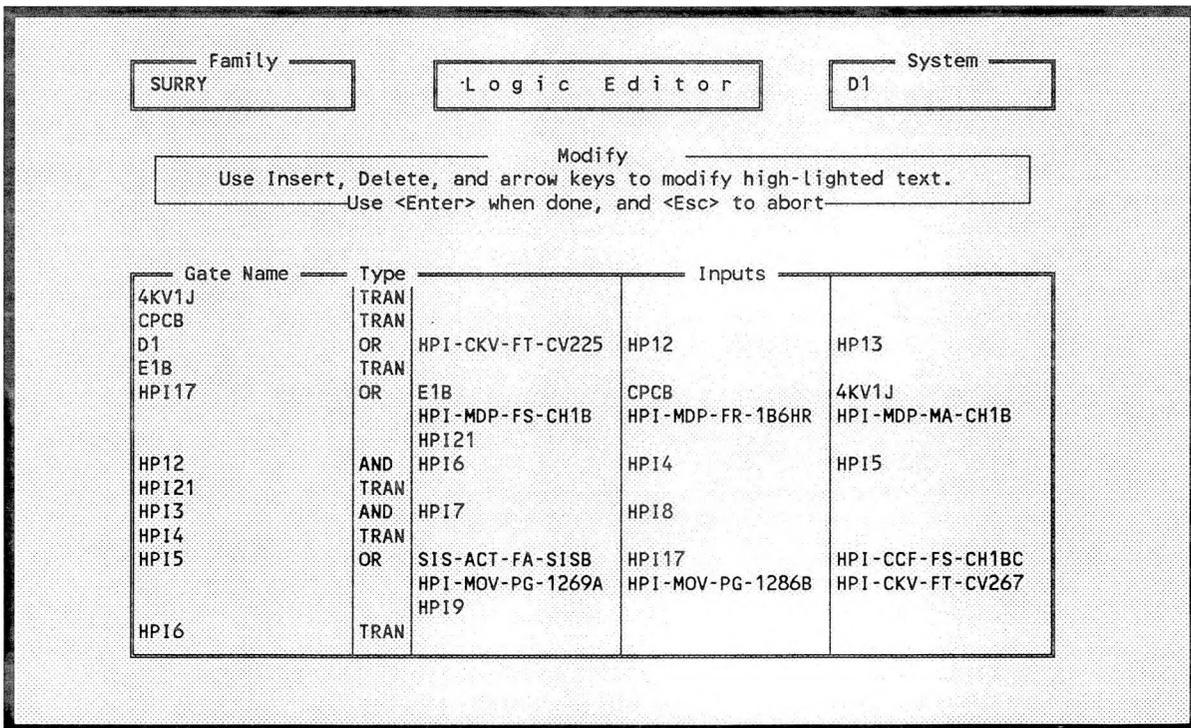

Figure 117. Modify logic editor data.
5.6.2.3 Modify. This option allows you to modify any of the data displayed on the screen. To invoke this option, highlight the data you wish to update using the arrow or tab keys, and type an <M>. When you invoke this option, Figure 117 will be displayed. Use the insert, delete, or arrow keys to modify the highlighted text. You may only modify the highlighted text. Press <Enter> to exit and save the changes, or press the <Esc> key to exit without saving the changes.